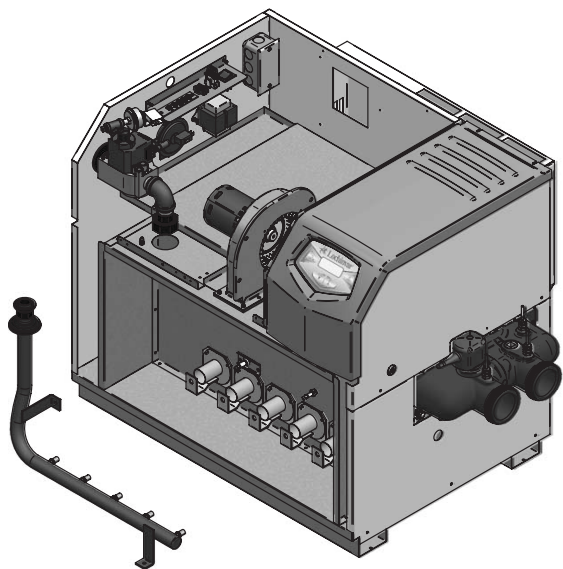

Figure 2-3\_Gas Train Detached for Burner Removal
- e) Remove mounting screws from the manifold mounting brackets. Remove the manifold/orifice assembly from the burners (FIG. 2-3).